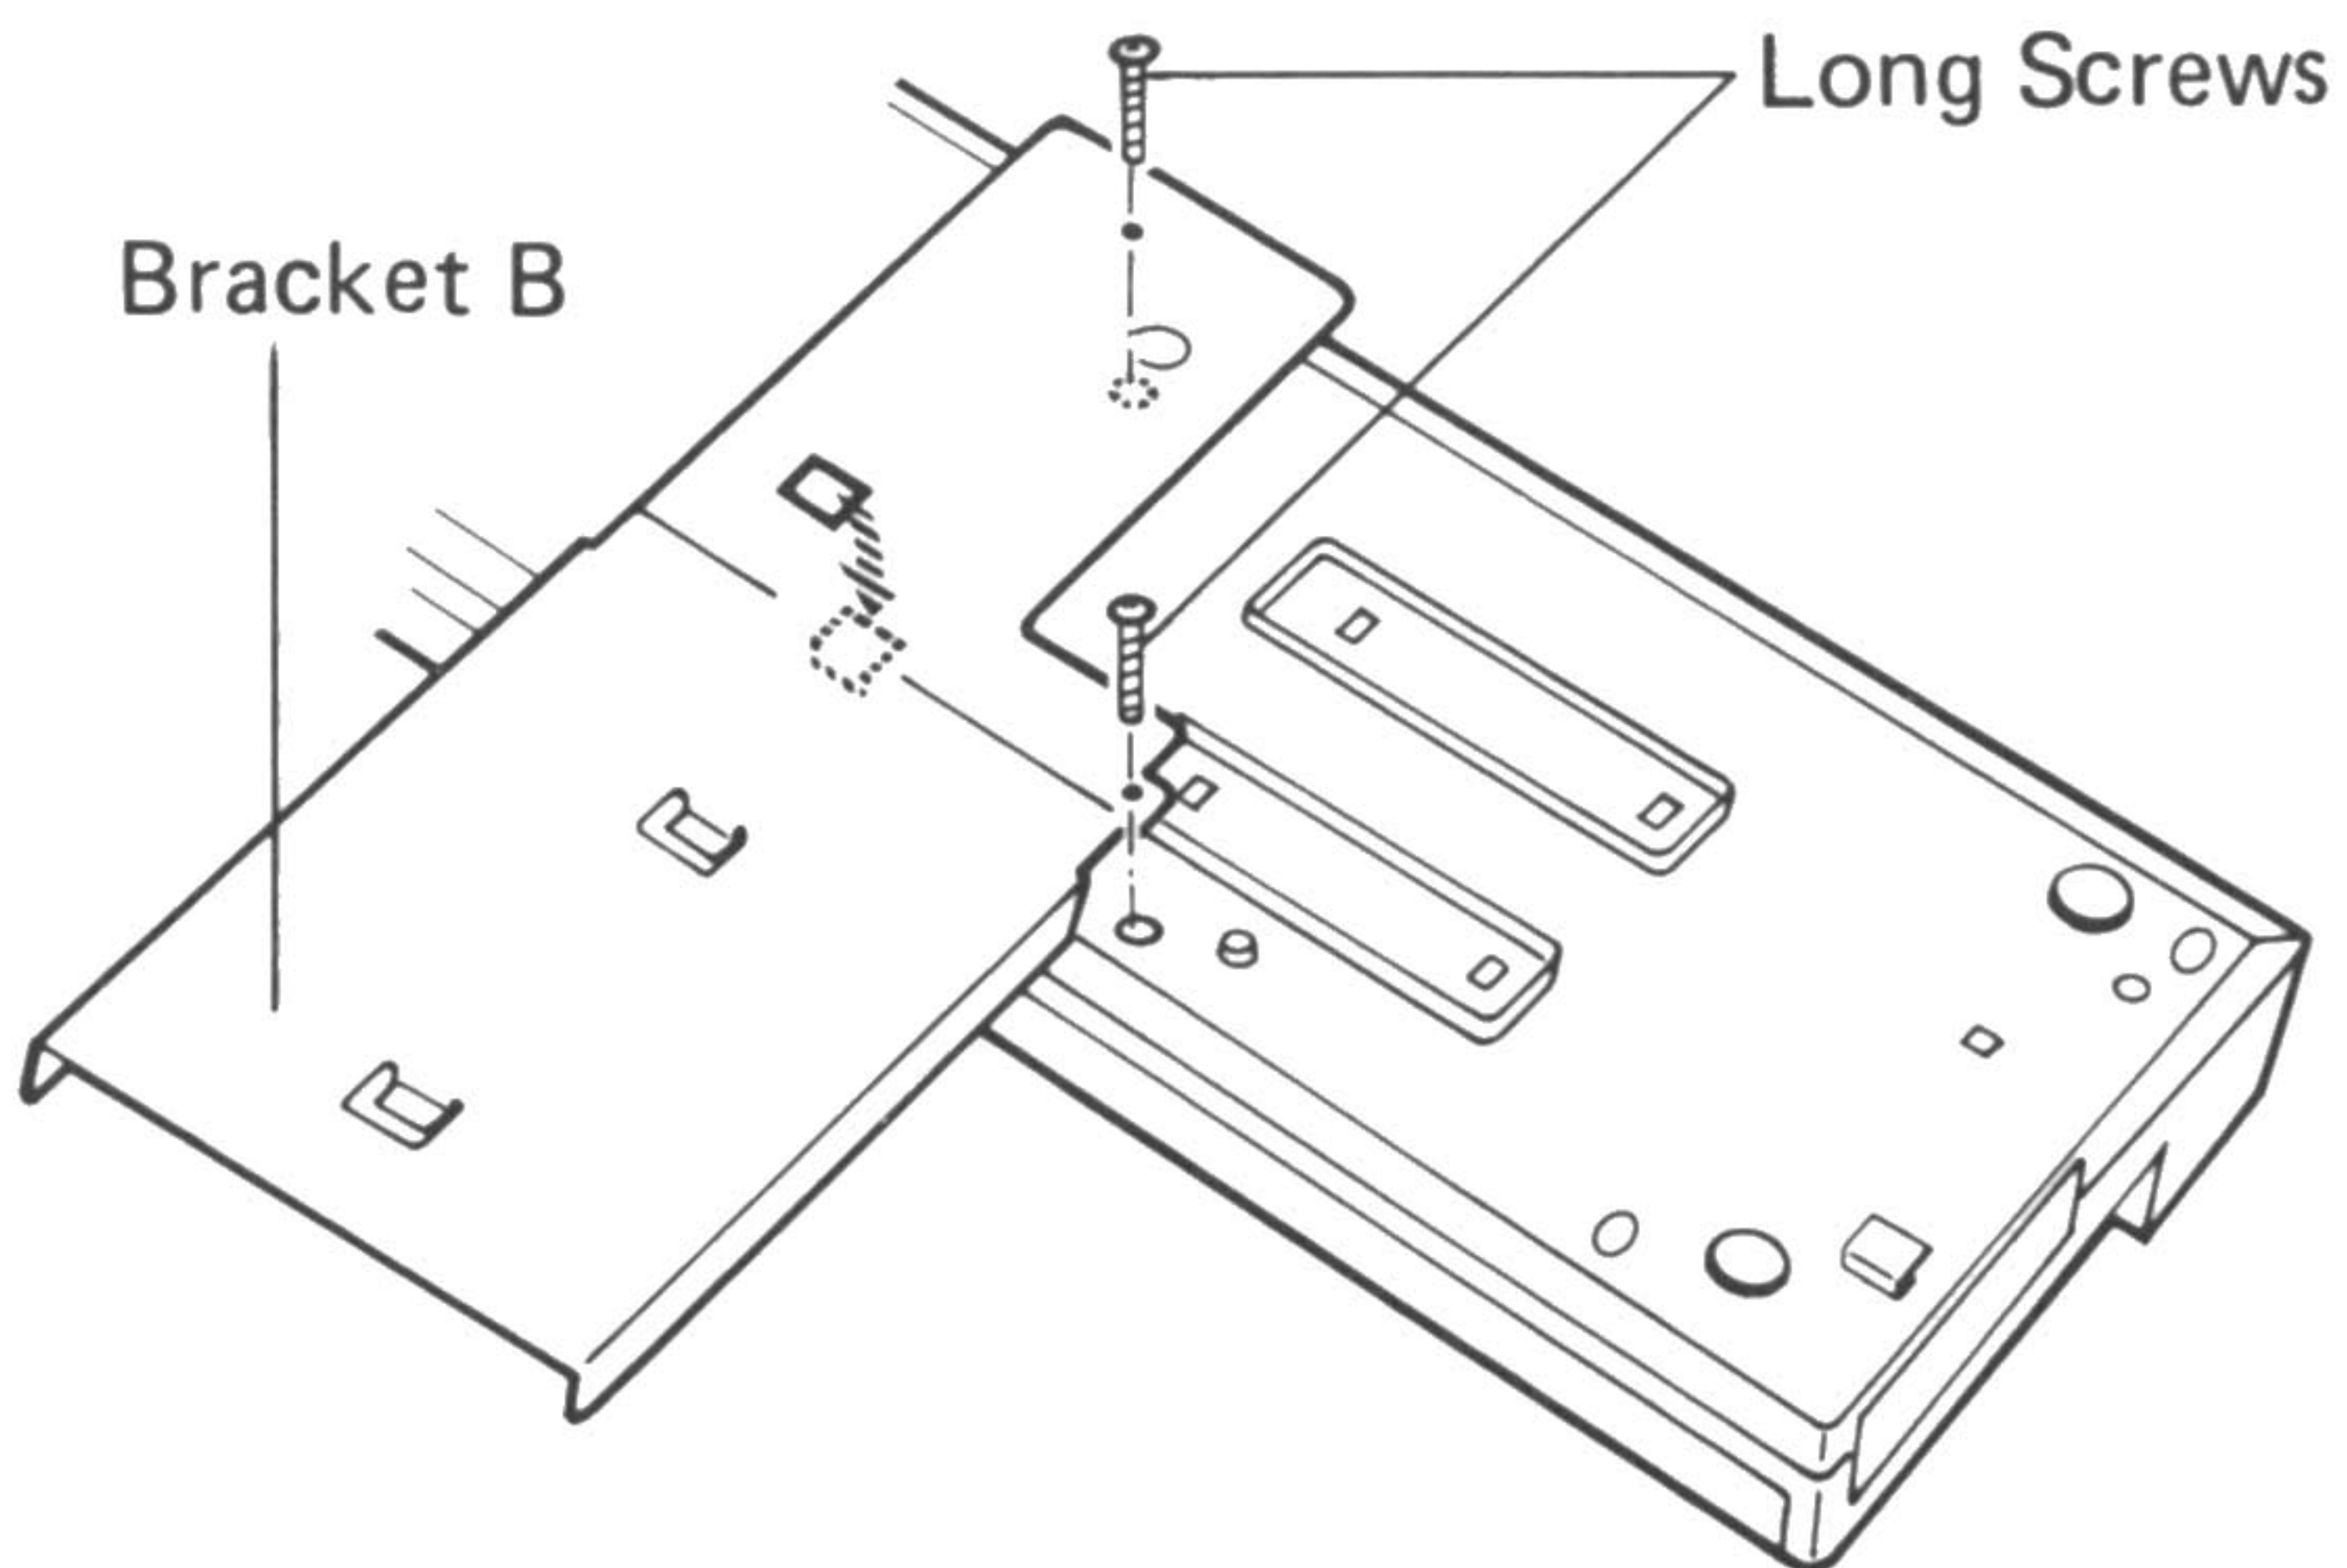

Figure 4. Connecting Metal Support Bracket B to the PC-2 Printer/Plotter/Dual Cassette Interface.
1. At the bottom of the PC-2 Printer/Plotter/Dual Cassette Interface, remove screws A and B. Position Metal Support Bracket B so that the Interface clips to the slot of the bracket. To secure the metal bracket, use the long screws included with the package. (See Figure 4.)